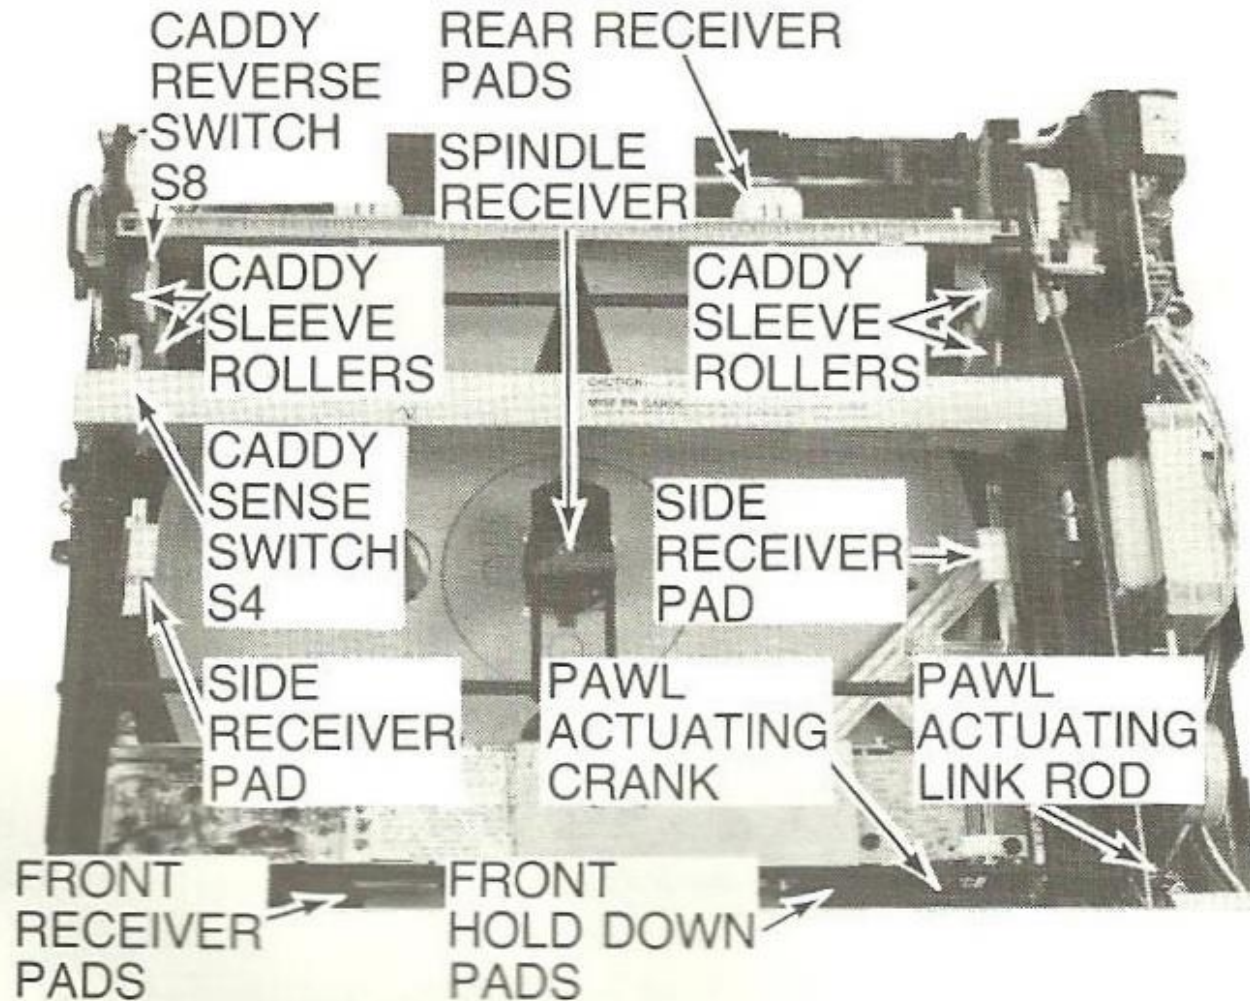

Fig. 5—Mechanism Identification
When the caddy sense switch, S4, is activated (closed), power is applied to the function motor. The caddy (sleeve) rollers begin to rotate, they grasp the caddy (sleeve) pulling it into the player. The caddy (sleeve) then activates (closes) the caddy reverse switch, S8. As caddy (sleeve) insertion nears completion the rear receiver pads are lowered, the caddy (sleeve) lock defeat tabs enter the end of the caddy (sleeve) on either side unlocking the spine tabs which hold the spine and VideoDisc captive in the caddy (sleeve). At the same time the spine latch tabs, are pushed up and over the end of the spine and drop into their latching position holding the spine and VideoDisc captive in the player. The spine sense switch, S5, is also activated (closed) at this time and the side indicator switch, S6, is either activated (closed) or left "off" (open) depending upon which side of the disc is being played. The function motor stops for approximately one (1) second before it begins running in the reverse mode (See Figs. 5 & 6).
As the caddy (sleeve), now empty, begins its ejection travel from the player—the caddy (sleeve) lock defeat tabs (spring loaded) pop up above the spine to the position necessary for performing their function during the “unload” process. The rear receiver pads rotate up to their normal position to support the disc and spine. The caddy (sleeve) reverse switch, S8, is deactivated (opens), however the function motor continues to run. When the caddy (sleeve) is released by the caddy rollers it must then be manually removed from the player. As the caddy (sleeve) is being manually removed from the player—the caddy sense switch, S4, is deactivated (opens), the side receiver pads (spring loaded) raise up to support the spine, the front receiver pads (spring loaded) raise and the spine holddown pads (also spring loaded) lower to support the disc and spine. The last item to be released is the Pawl Actuating Crank, which is used to prevent the function gear actuating pawl from being tripped during the time a caddy (sleeve) is in the player (See Figs. 5 & 6).